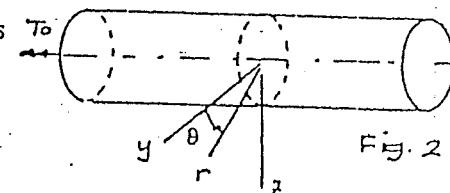

Fig. 2
2. Suppose the stress distribution on a cross-section of the circular cylinder of Fig. 2 is given by $\sigma_{xx} = \sigma_{xr} = 0$, $\sigma_{x\theta} = k\sqrt{r}$, where k is unknown. What is the value of k in this case?